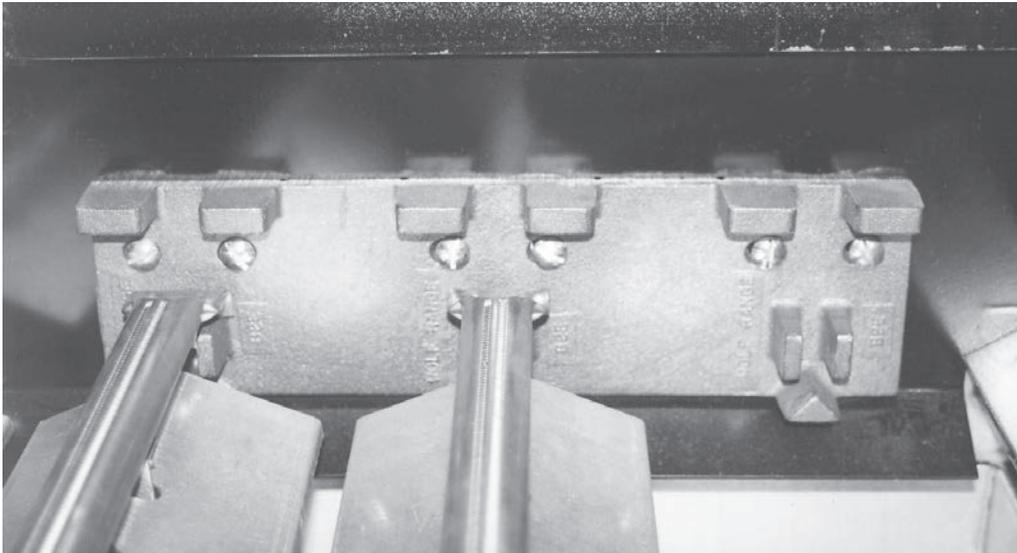

**Fig. 8**
2. With a pair of pliers, straighten the attachment rod at the end towards the burner venturi, until the rod will slip freely from the assembly. (Fig. 8)